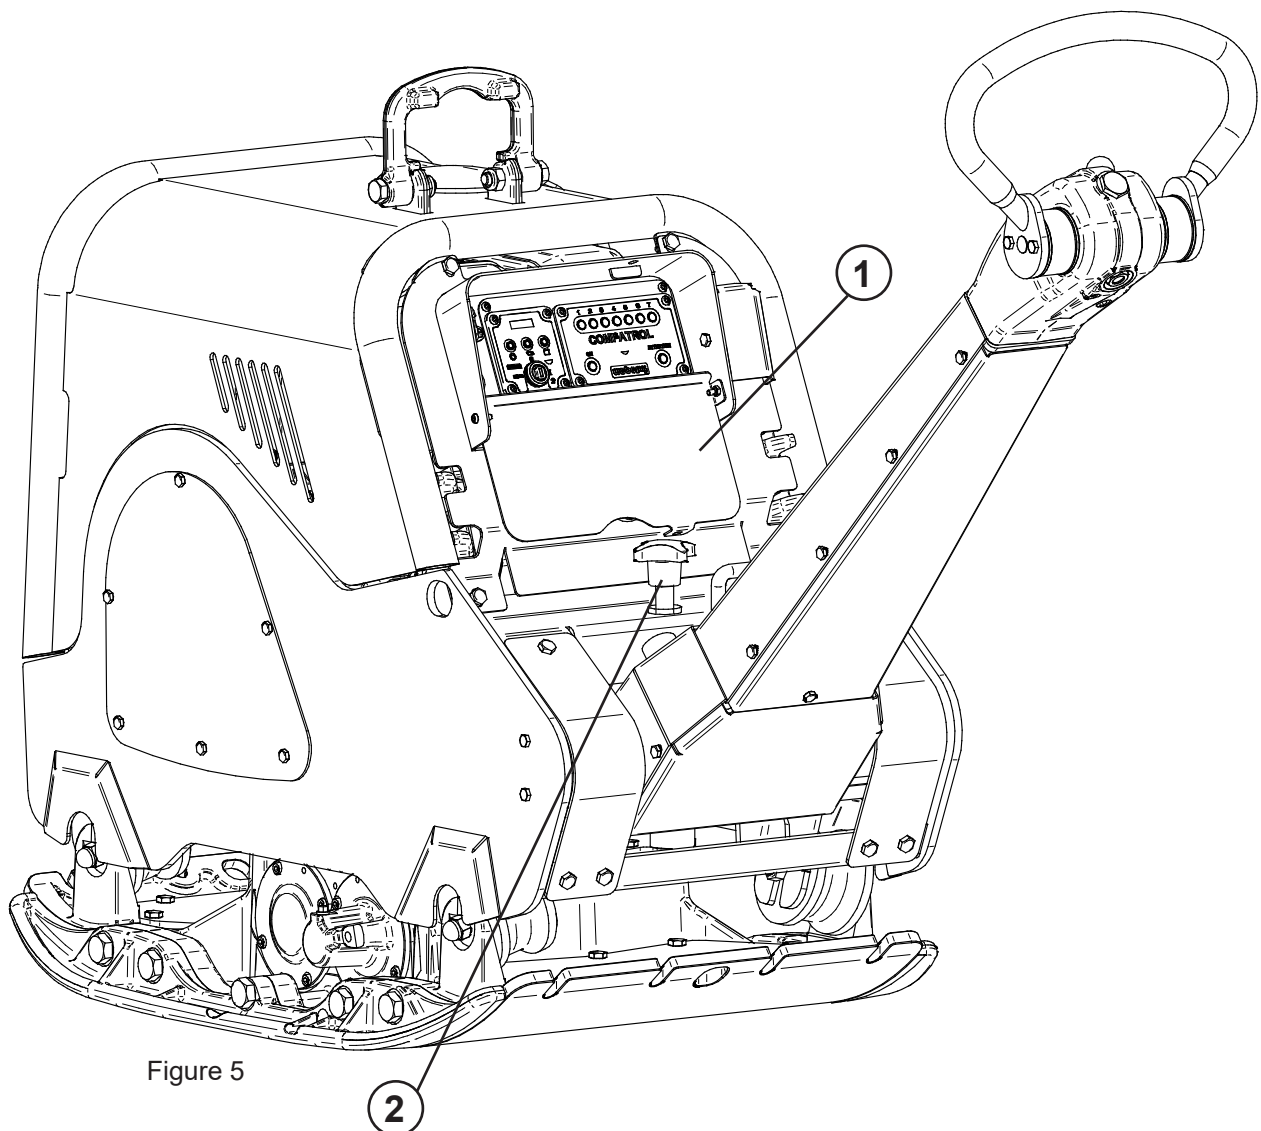

Figure 5
- ▶ Adjust the desired work height of the guide bar with the set screw (position 2, figure 5).
- ▶ Open the vandalism flap (position 1, figure 5)